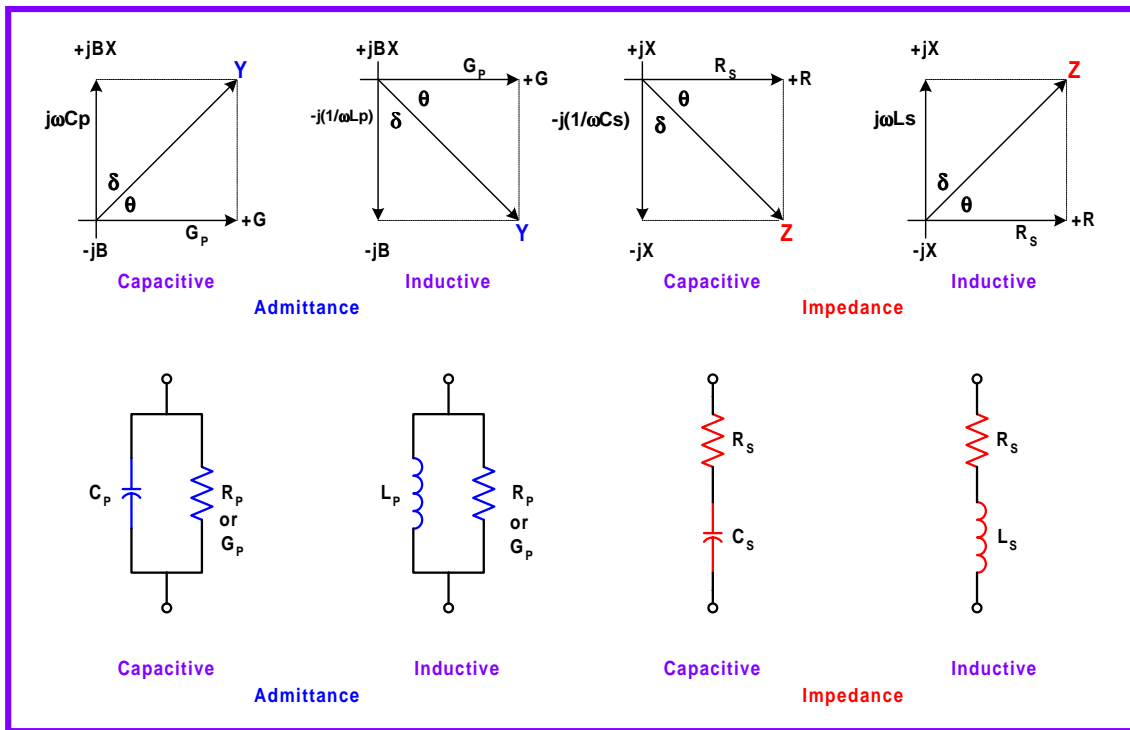

Figure 2-4: Series and Parallel Equivalent Circuits and Phase Diagrams
An impedance (Z) that is neither pure reactance (X) nor resistance (R) can be represented at any specific frequency by either a series or a parallel combination of resistance and reactance. The value of resistance and reactance used in an equivalent circuit depend on whether a series or parallel combination is used. If the user selects [SER] (series equivalent circuit), then the 1710 instrument measures L_s , C_s or R_s . If the user selects [PAR] (parallel equivalent circuit), then the 1710 instrument measures L_p , C_p or R_p . Figure 2-4 illustrates Series and Parallel Equivalent circuits and corresponding Impedance and Admittance phase diagrams. Table 2-3 displays LCR parameters, their unit and formula from which they are derived. The 1710 instrument measures the primary parameters L , C and R and secondary parameters Q , D and R . The other LCR parameters can be calculated from these measurements using the equations in Table 2-3.